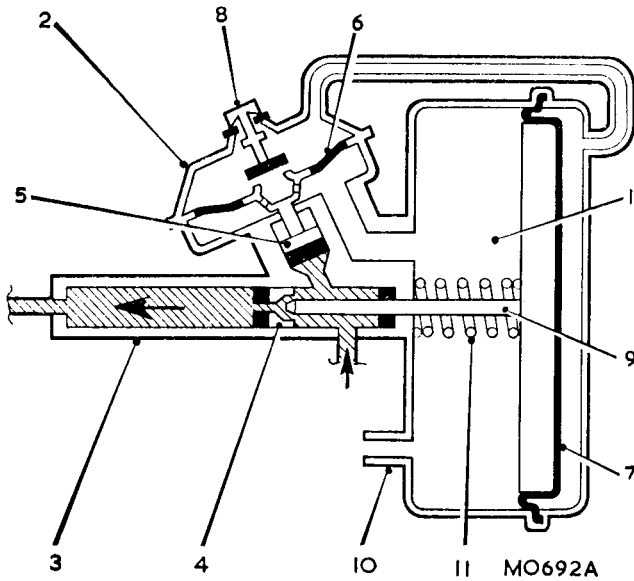

Fig. Mb.1
Refer to Fig. Mb.1. The vacuum-operated servo unit consists of three main components, namely the vacuum cylinder (1), the air valve assembly (2), and the slave cylinder (3) which is connected in the hydraulic circuit between the main master cylinder and the wheel cylinders. Under light braking, fluid is allowed to pass directly to the wheel cylinders via the hollow centre of the slave piston (4) and no braking assistance is obtained; fluid pressure acting on the air valve piston (5) closes the diaphragm (6), thus separating the chamber behind the main servo diaphragm (7) from the one in front. Under heavier braking, further movement of the air valve pistons opens the air valve and allows air to enter the chamber behind the main diaphragm, destroying the vacuum. The central rod (9) is thus pushed to the left, sealing the hollow centre of the slave piston and pushing it down its bore, so increasing the fluid pressure at the wheel cylinders. When the brake pedal is released, the pressure beneath the air valve piston is destroyed, the diaphragm (6) re-opens and the air valve closes. Via the non-return valve (10), a suspended vacuum is recreated around the main diaphragm. Under the action of the spring (11), the diaphragm and push-rod, and thus the slave piston, are returned to their original positions, and the pressure in the wheel cylinders is lost.